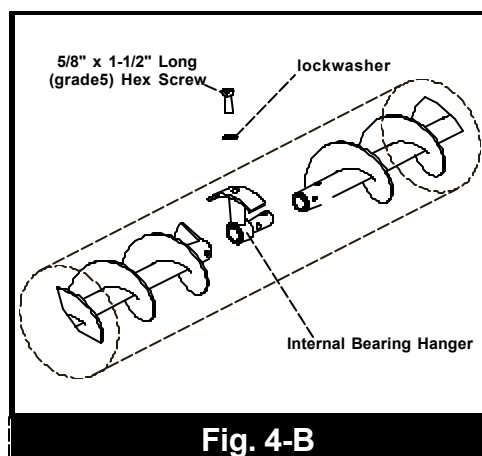

Fig. 4-B
- B. The internal bearing hanger should be placed over the end of the flight connecting stub on the middle auger section. Next, slide the flight section out of the head or upper middle auger housing section. Connect the middle and head flight sections together. Use two (2) 1/2" x 3-1/2" long (grade 8) hex head capscrews and stover type locknuts. (See Fig. 4-A.)
2. Grab the internal bearing hanger stem through the bearing access area and rotate the bearing until it lines up with the 3/4" hole on the top of the auger housing. (See Fig. 4-B)